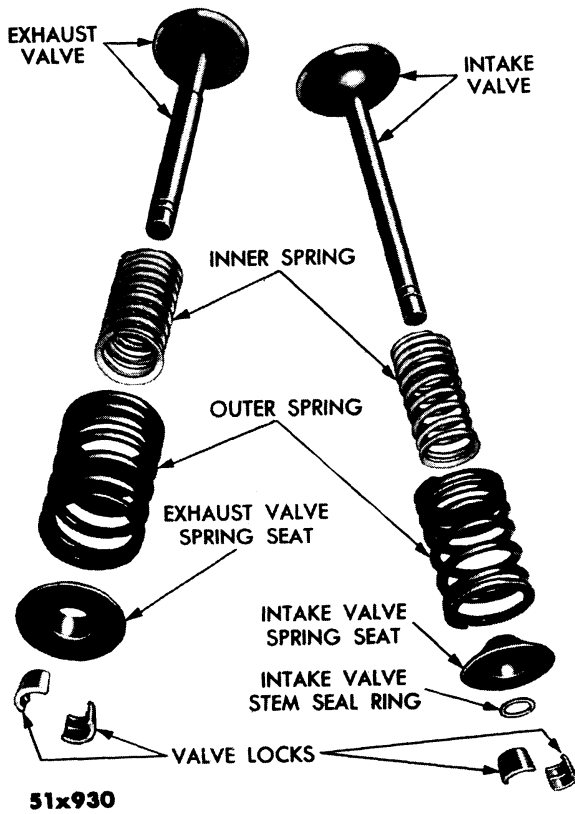

Fig. 137—Valves and Valve Springs (Disassembled View)
- (1) Compress the valve springs, using Tool C-3023. Remove each of the valve locks. Release and remove spring compressing tool.
- (2) Remove the valve spring retainers and valve stem seal rings (intake valves only) and the outer and inner valve springs (Fig. 137).